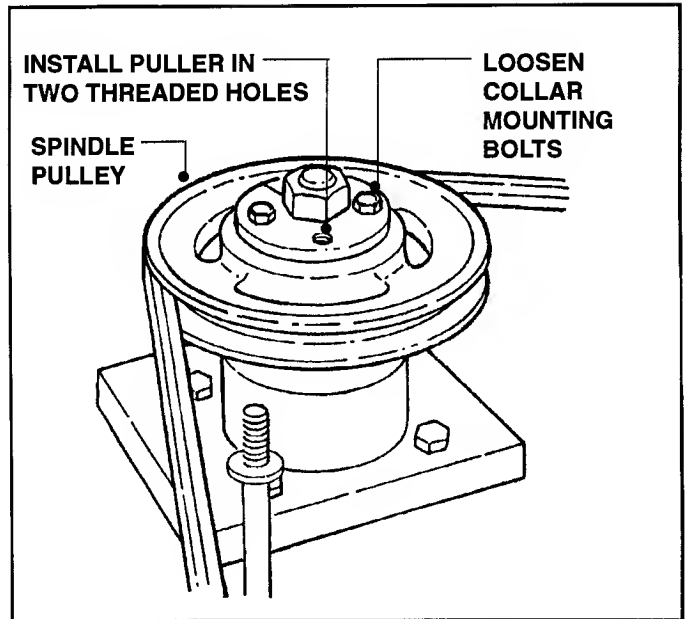

FIGURE 5.7
- Loosen the two Pulley Collar Mounting Bolts on each Pulley. See Figure 5.7.
- Secure Collar to Pulley with Mounting Bolts loosened in Step A. Torque bolts to 115 in. lbs. Refer to Figure 5.7.